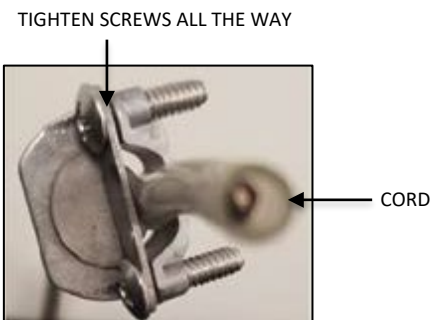

FIG. 22 – STRAIN RELIEF WITH CORD INSERTED
6. Insert cord through the strain relief and tighten two screws on the strain relief above hanging bracket where marked. If screws are not tightened properly, cord could slip through the strain relief causing the fixture to fall as shown in FIG. 22.